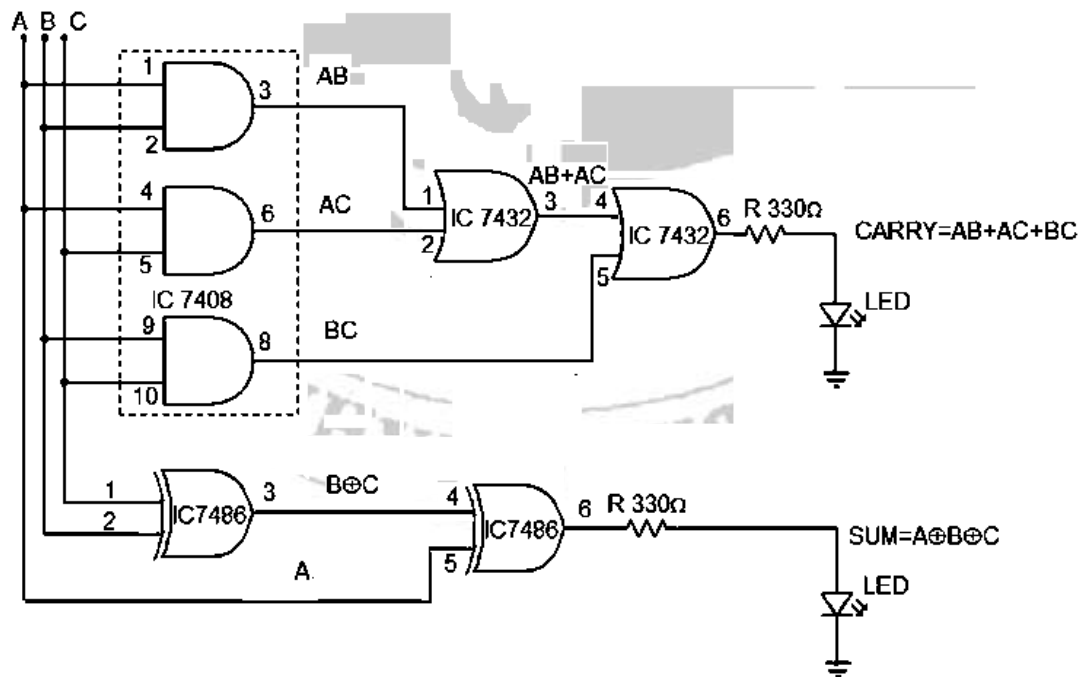

Fig 6.4: Full adder Circuit Diagram
6. Repeat the procedure for figure 6.4.